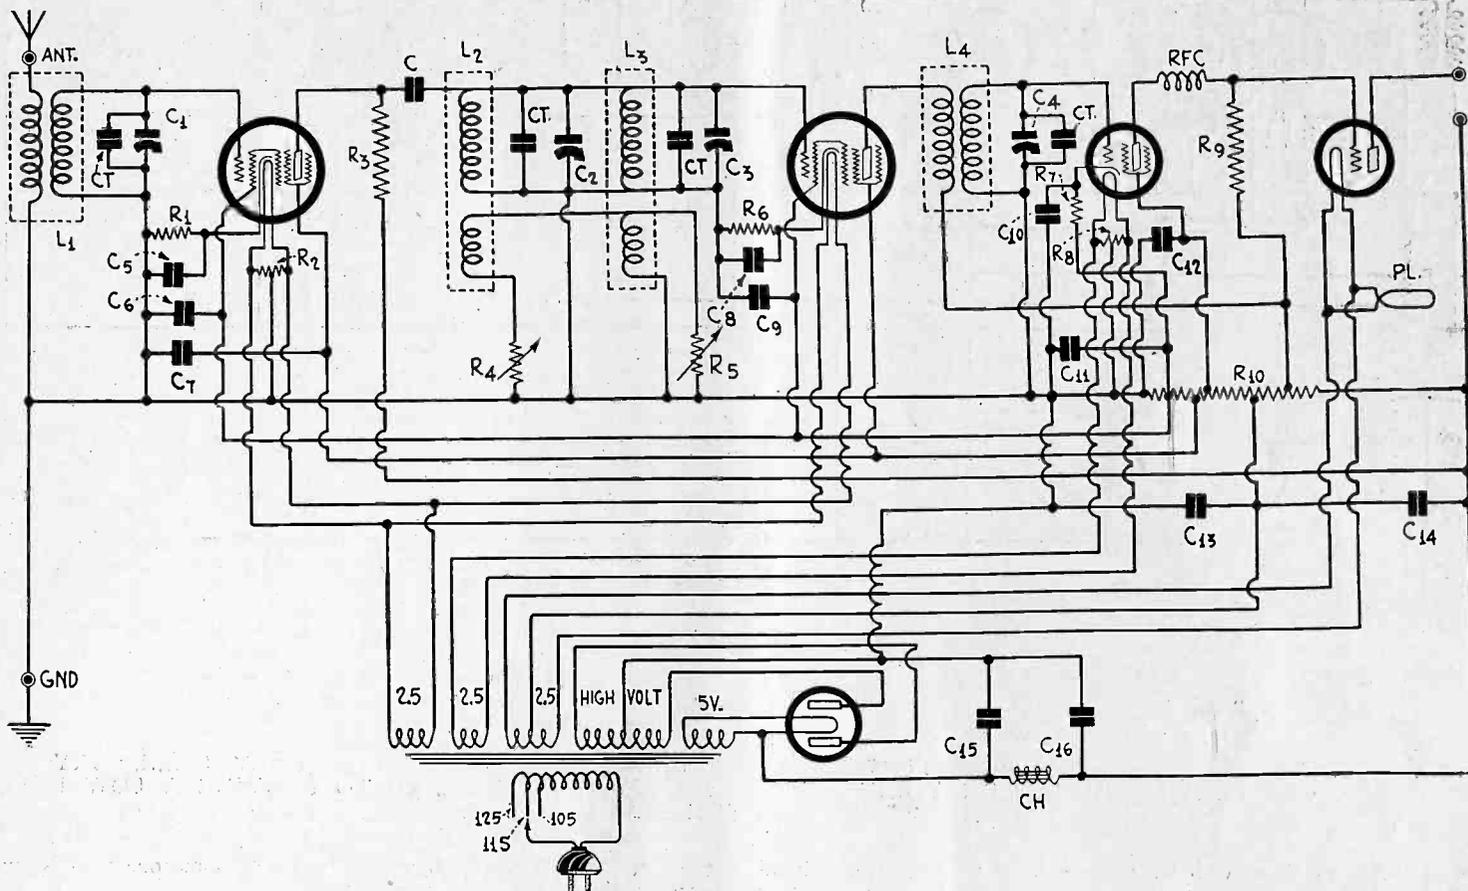

FIG. 1
**A** DESIGN for utilizing the new pentode tube is shown in Fig. 1, wherein a novelty exists in the tuning of the coupling to the second pentode. The output of the first tube is taken through the voltage drop in a plate resistor, in parallel with which is a circuit tuned by C2. Another tuned circuit is used as input to the second pentode. The two tuned circuits just mentioned are united by the coupling of two small windings, like usual primaries, in parallel, volume controls being used in series with these coils. The controls are R4 and R5, and are to be actuated by a single shaft.